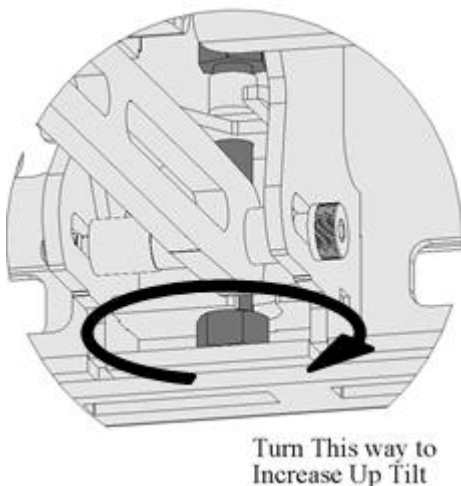

Figure 17, Bottom Tilt Adjust
4. Adjust the bolt shown in Figure 17 with a 1/2" open ended wrench